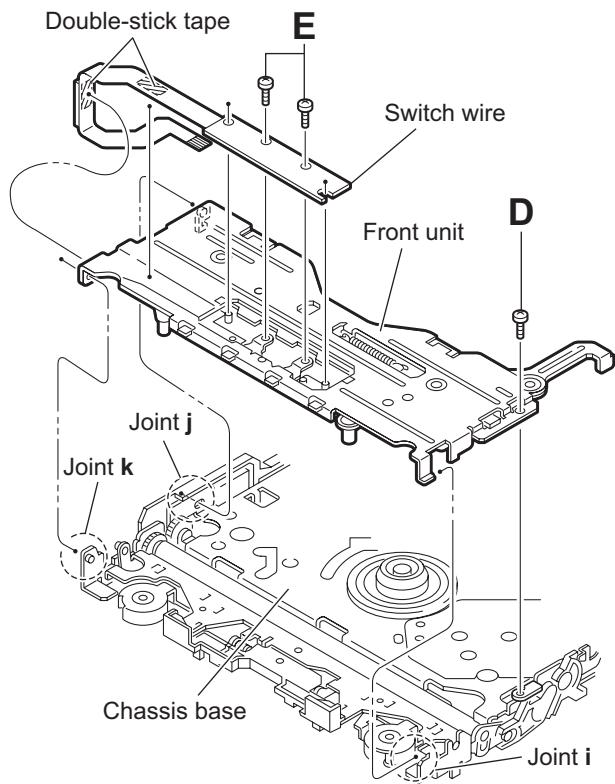

Fig.12
- (4) Release two joints **j** and **k** on the right side of the chassis base. (See Fig.12)
- (5) Take out the front unit upward, and remove the two screws **E** attaching the switch wire. (See Fig.12)
When reassembling, attach the flexible wire extending from the switch wire using a double-stick tape. (See Fig.12)